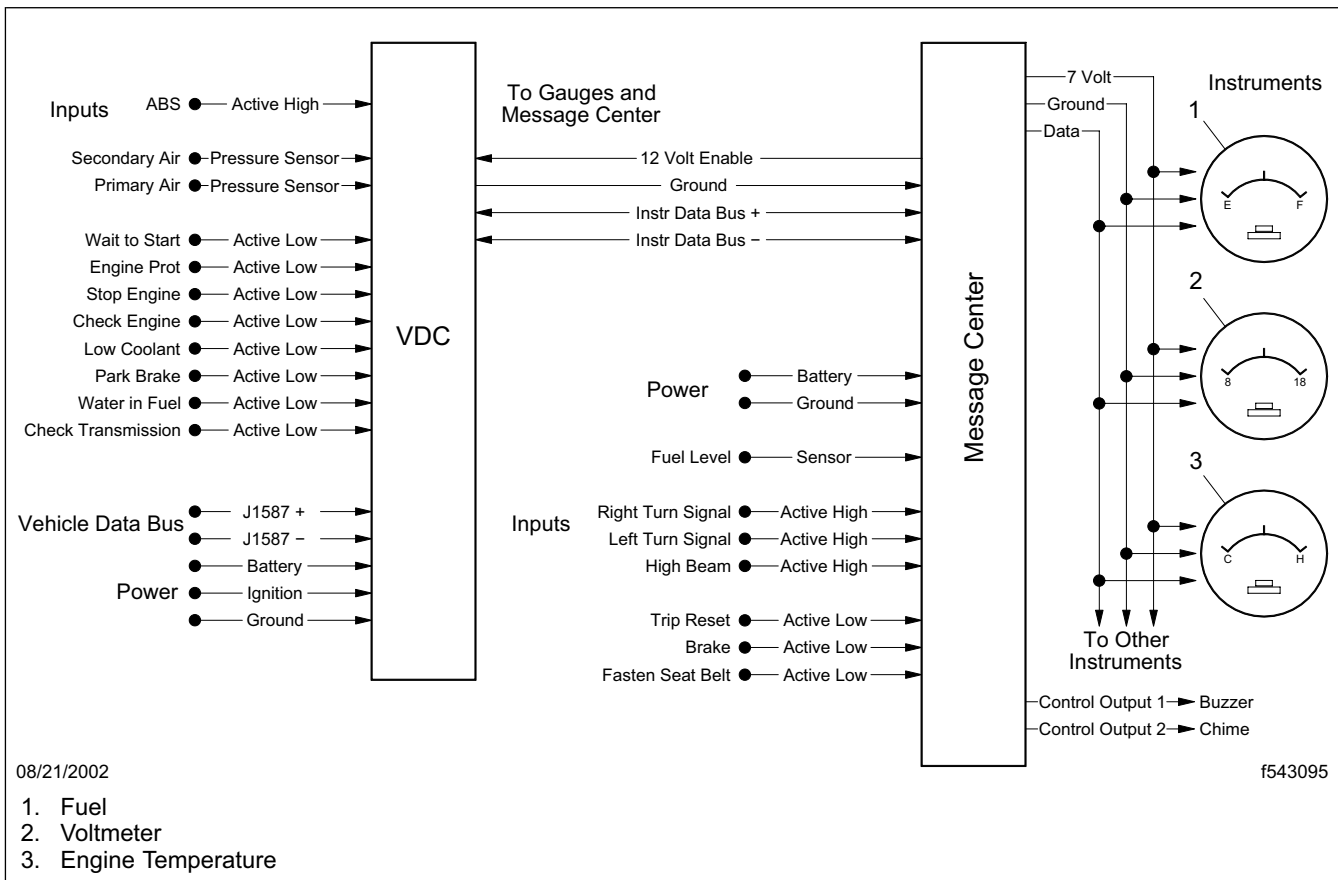
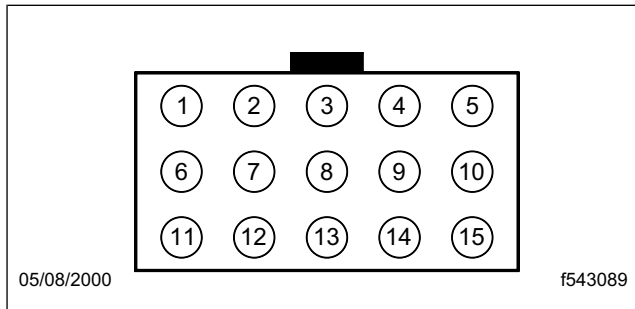
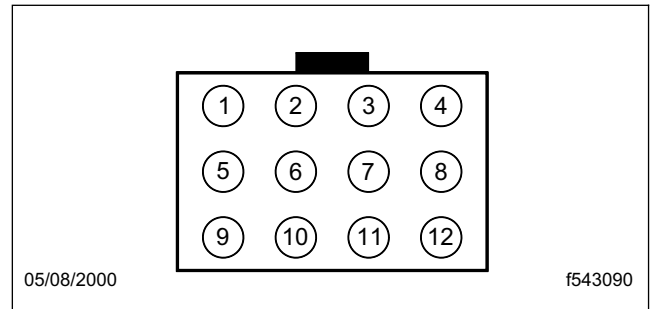

Fig. 1, Vehicle Data Computer (VDC)/Message Center (MC) System
Fig. 2, MC 15-Pin Connector (from face of connector)
Fig. 3, MC 12-Pin Connector (from face of connector)
The message center (MC) is located in the dash panel and contains the icons that illuminate to warn of potential problems. See Fig. 1. The MC has a built-in diagnostic function that indicates whether or not the MC is receiving data from the vehicle data computer (VDC). If data is not received from the VDC for more than 45 seconds, the icon lights will "dance" or initiate a chase pattern, indicating no reception of data. Data is sent from the VDC to the MC and on to the instruments. See Fig. 2 and Fig. 3.
The vehicle data computer (VDC) is critical to the instrument system. See Fig. 1. It is usually mounted in or near the engine compartment. The VDC has direct communications with the engine electronic control module (ECM) through the J1587 databus. The VDC and the MC, in the dash panel, communicate via a separate twisted pair of wires (339D + and 339D -).